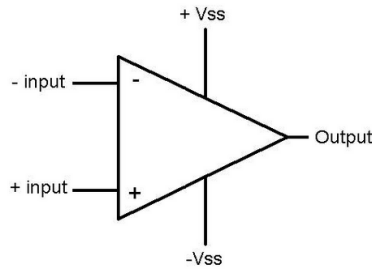
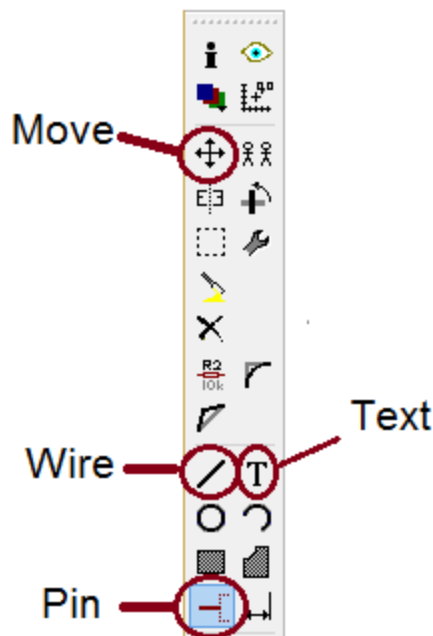

Figure 2: A standard symbol for a single operational amplifier. A component's symbol is what you see on a schematic.
Figure 3: Eagle tool bar with move, draw wire, pin, and text tool labelled.
3. Using the Eagle tool bar as shown in Figure 3, create the op-amp symbol displayed in Figure 2.
- a. Optional: you can type in the variant name “NA” (as seen in Figure 2).
- a. Rearrange the connectors (using left click-and-drag) so they roughly follow the standard opamp symbol in Figure 2.